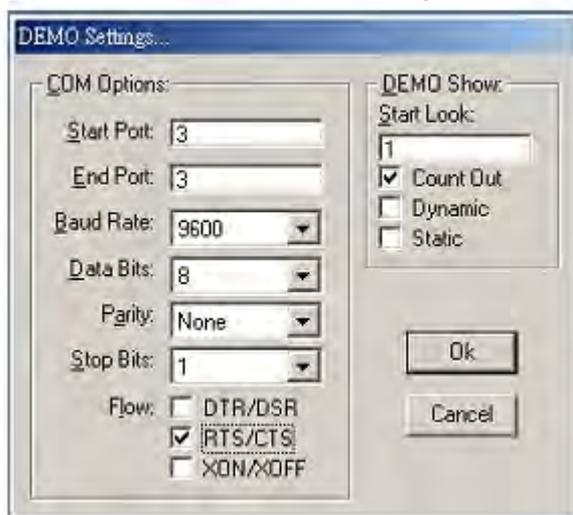

Fig.7
4. Click the “Setting” to set the RS232 loop counter (See the Figure 7); your system will detect COM3.